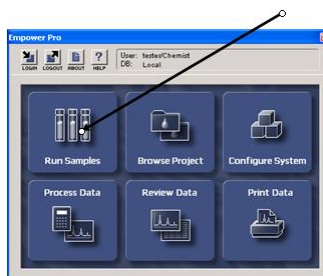

Figure 8
- 5.5. In the Empower main screen (See Figure 8) click on Run Samples.